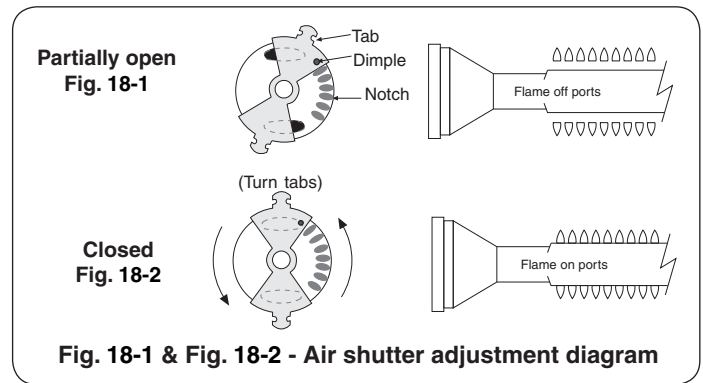

Fig. 18-1 & Fig. 18-2 - Air shutter adjustment diagram
Main burner air shutters are easily accessed by removing (when cool) the top panel (face). The air shutters are controlled by the wire levers at the front of the burners (see PARTS LIST). The air shutter has a small dimple (see Fig. 18-1) that allows it to lock into notches in the burner face. This prevents the air shutter from moving.
3. After burning for two minutes, open the air shutters **using the wire levers** until the flames lift off, or appear not to be touching the burners (Fig. 18-1).